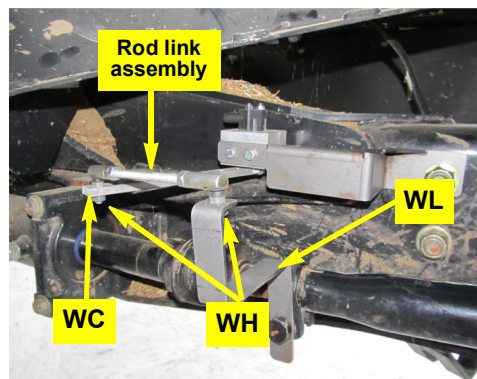

Figure 2d: WAS link rod assembly installed
c. Mount rod link bracket **WL** on the tie rod's adjustment clamp bolt. Mount the bracket so that it bends away from the axle and is vertical (Figure 2c with inset and Figure 2d).
d. Using hardware **WH**, install the rod link assembly from step 1 between the last hole in connector arm **WC** and bracket **WL**. Set the swivel studs downward at both ends (Figure 2d). Leave swivel nuts **WH** loose.